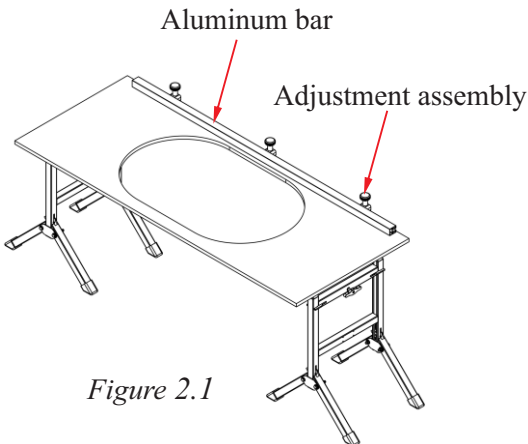
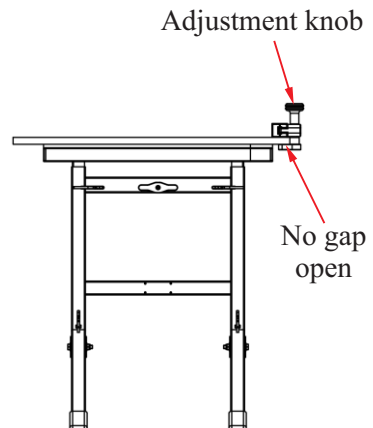

Figure 2.1
Figure 2.2
- Place the aluminum bar on the surface of the stone slab so that the aluminum side is in contact with the stone slab surface (Figure 2.1). Then turn the adjustment knob on the adjustment assembly to clamp it tightly to the stone slab surface (Figure 2.2).